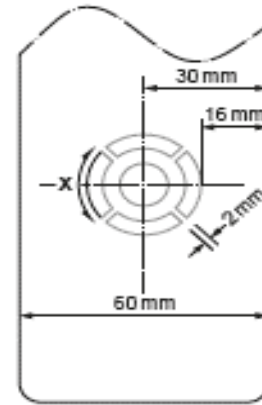

Fig. 2.2 (not to scale)
Fig. 2.2 shows a CAD diagram of the central buttons in the lower part of the remote control. Arc X is part of the outer circumference of a circular array of four identical buttons.
- (e) Using the diagram in Fig. 2.2, calculate the length of arc X in mm to 2 decimal places. Show your working.